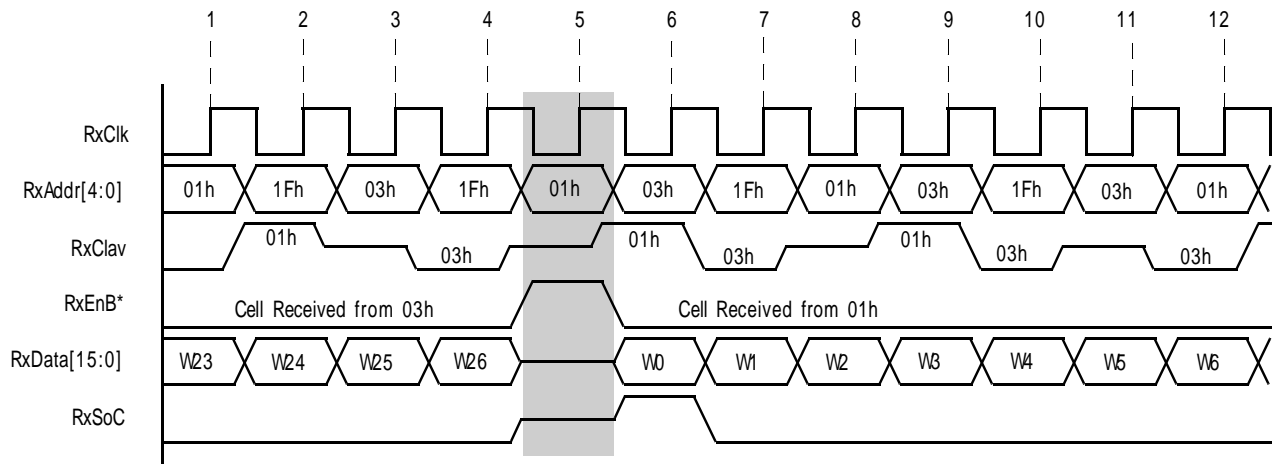

Figure 90. Timing Diagram of the Receive Utopia Data and Address Bus signals, during the ‘Multi- PHY’ UNI Device Selection and Write Operations.
Figure 90 presents a timing diagram that illustrates the behavior of various "Receive Utopia Interface block" signals,
Notes regarding Figure 90:
2. The Receive Utopia Interface Block is configured to handle 54 bytes/ cell. Hence, Figure 90 illustrates the ATM Layer processor reading 27 words (e.g., W0 through W26) for each ATM cell.
In Figure 90, the ATM Layer processor is initially reading ATM cell data from the Receive Utopia Interface within UN #2 (RxAddr[4:0] = 03h). However, the ATM Layer processor is also polling the Receive Utopia Interface block within UN #1 (RxAddr[4:0] = 01h) and some “non-existent” device at RxAddr[4:0] = 1Fh. The ATM Layer processor completes its reading of the cell from UN #1 at clock edge #4. Afterwards, the ATM Layer will cease to read any more cell data from UN #1, and will begin to read some cell data from UN #2 (RxAddr[4:0] = 03h). The ATM Layer processor will indicate its intention to select a new UNI device for reading by negating the RxEnB* signal, at clock edge #5 (see the shaded portion of Figure 90). At this time, UN #1 will notice two things: